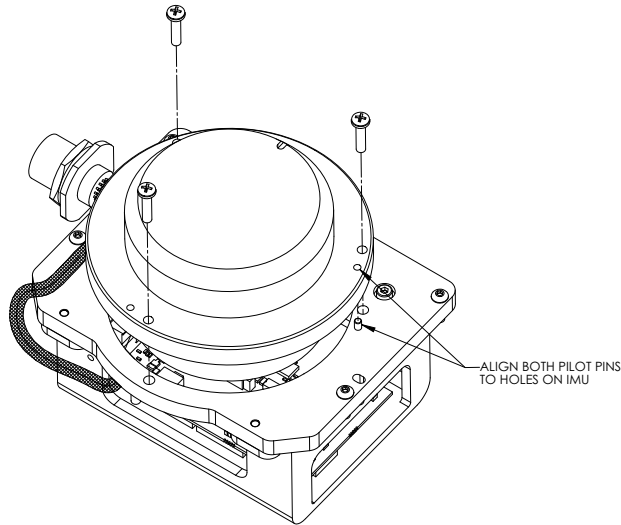

Figure 49: Installing IMU to Mounting Plate
3. Being careful of the connectors and the orientation, align the pilot holes of the IMU with the pilot pins of the mounting plate. Gently place the IMU and mounting plate together, being careful not to pinch the cable harness. Screw the IMU and mounting plate together, using thread-locking fluid on the 8-32 screws, as shown in *Figure 49*.